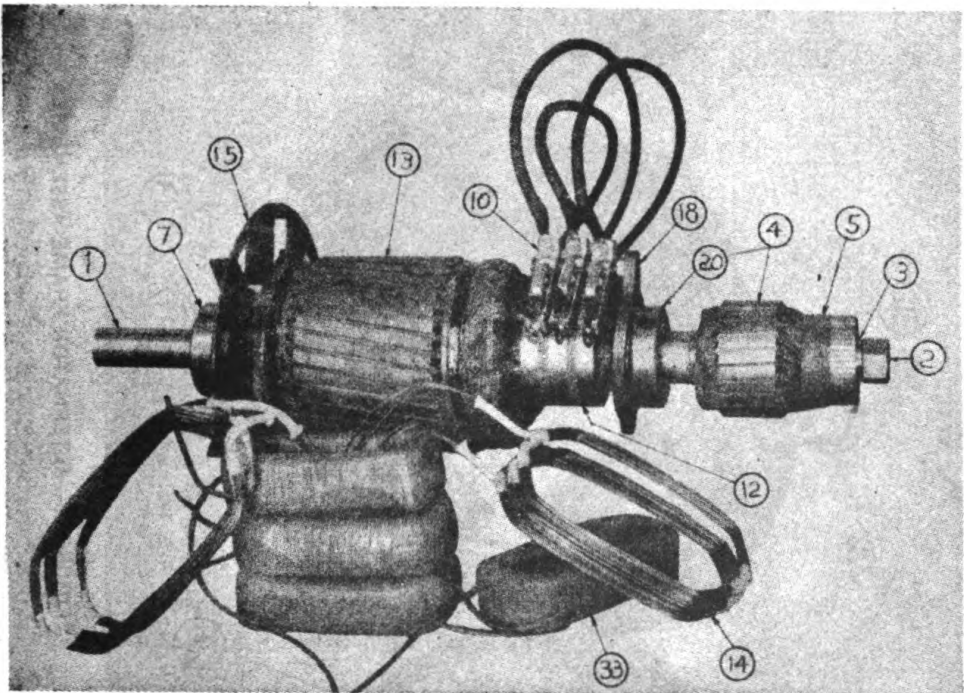

FIGURE 25—ALTERNATOR, EXCITER AND FIELD COILS
I. Alternator (Figures 25, 26 and 27).